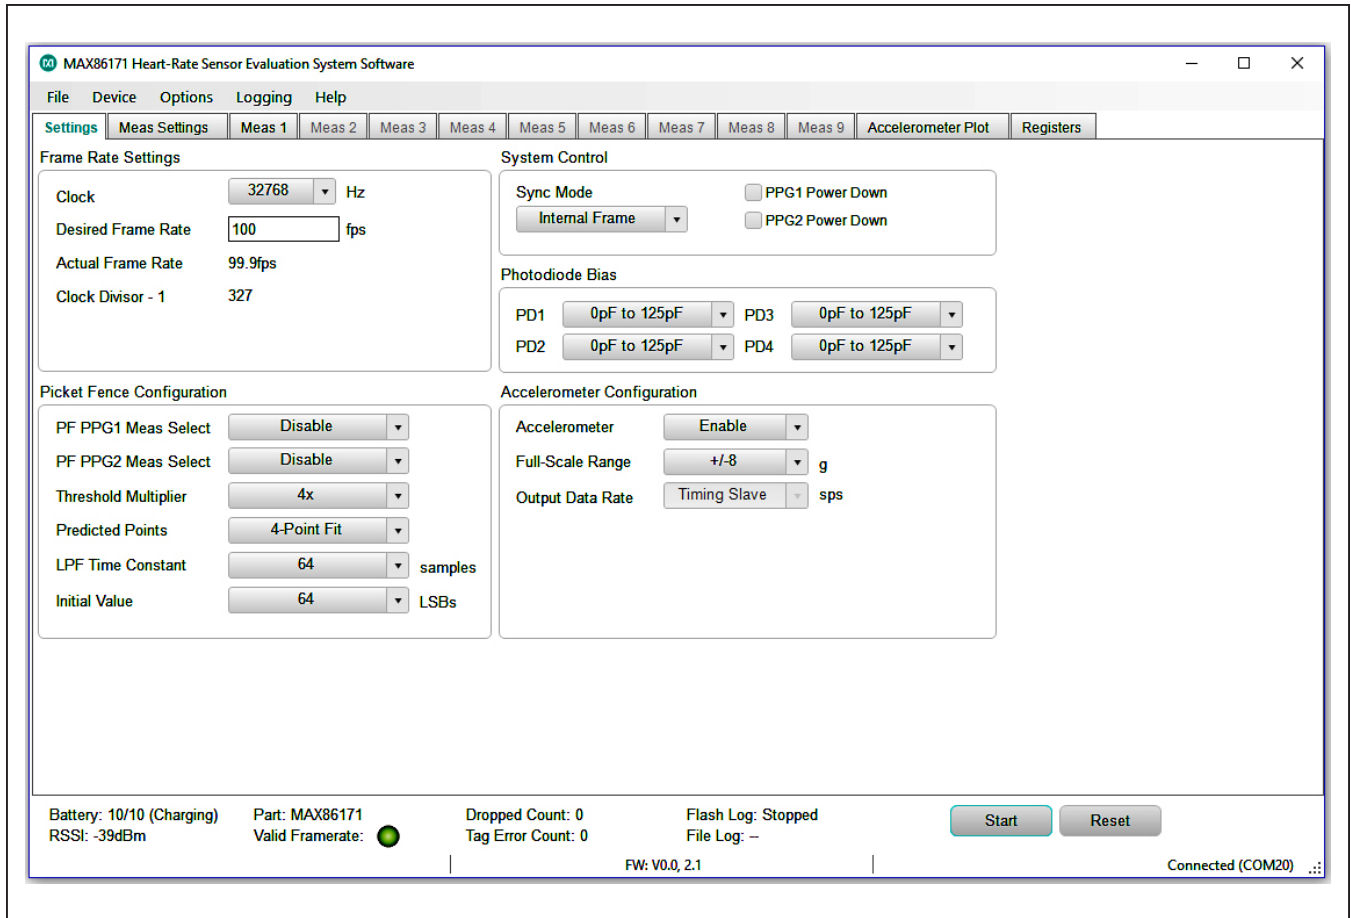
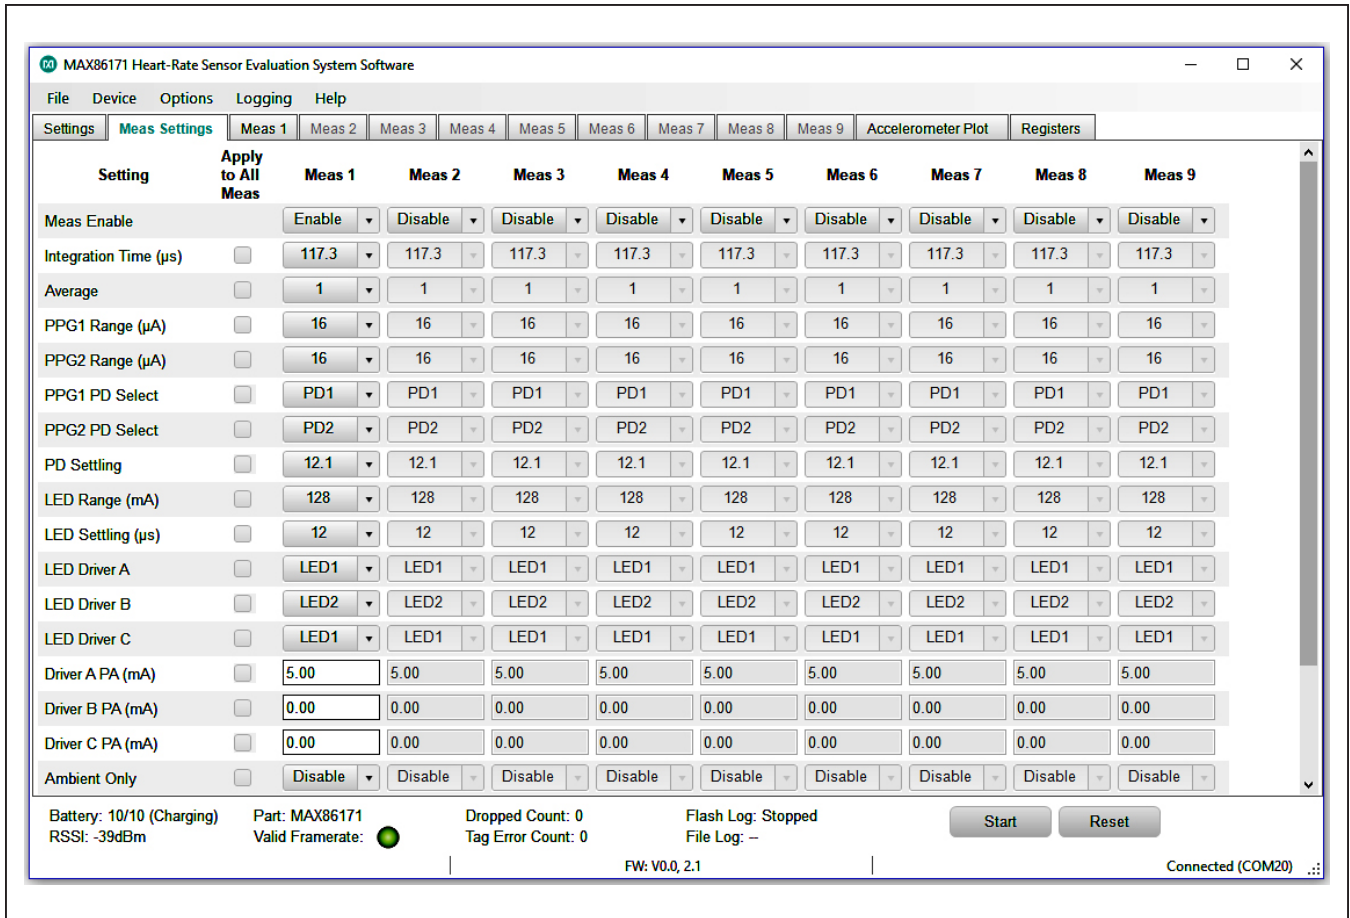

Figure 12. MAX86171 EV Sys GUI Settings
Figure 13. MAX86171 EV Sys GUI Measurement Settings
- 8) The GUI will then be launched as shown in Figure 12 and Figure 13.